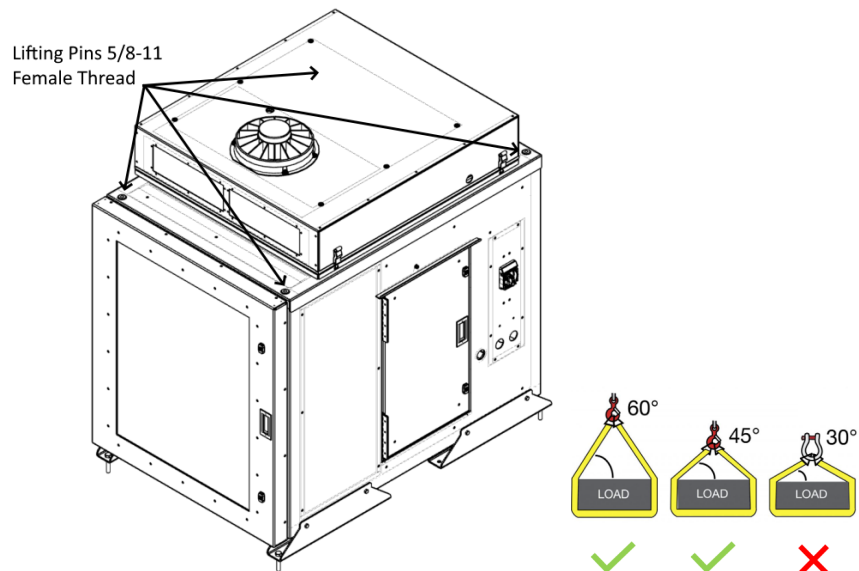

Figure 1 Enclosure Exterior
- Always use all four lifting points when lifting the enclosure (see Figure 1)